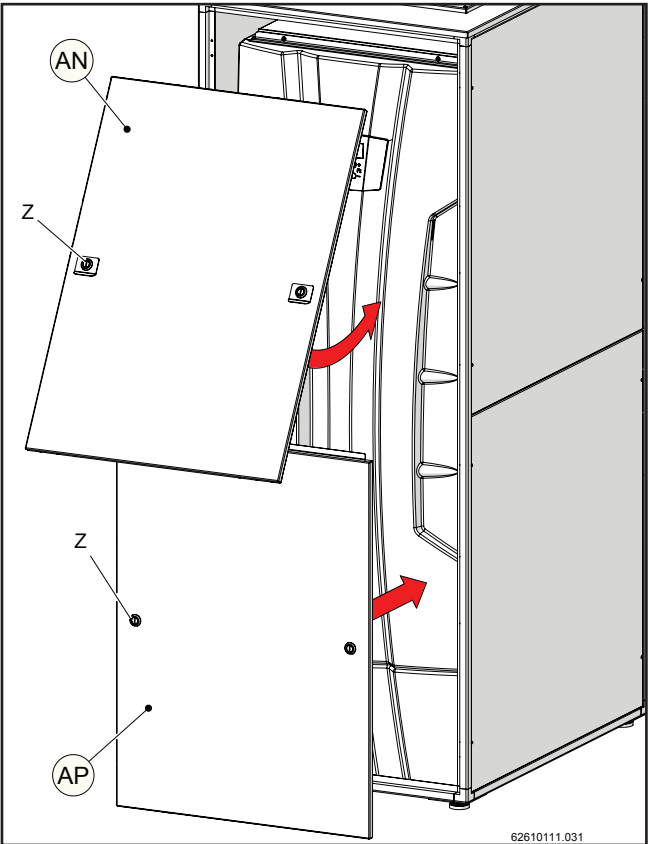
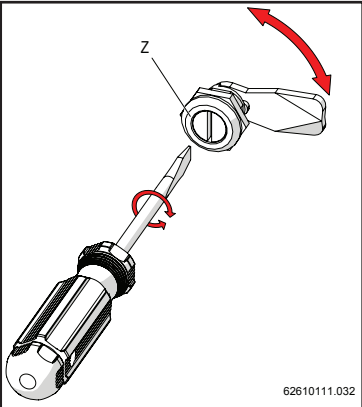

Figure 15-67
Figure 15-69
- 17.- Put on the front covers (AP) (first) and (AN) (next) as shown in figure 15-67 and 15-68. Attach them to the structure by tightening locks "Z" with a flat-head screwdriver (figure 15-69).